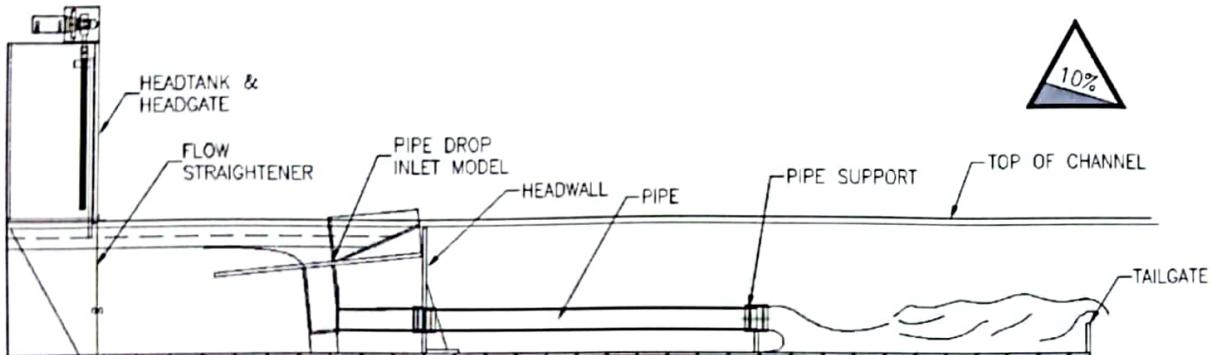

Figure 1 Installation
1. Initial settings (Fig. 1):
2. Mount the head wall to the channel floor midway along the length using two (2) #10-24UNC-2A x 0.625" long Round Head Machine Screws (RHMS).